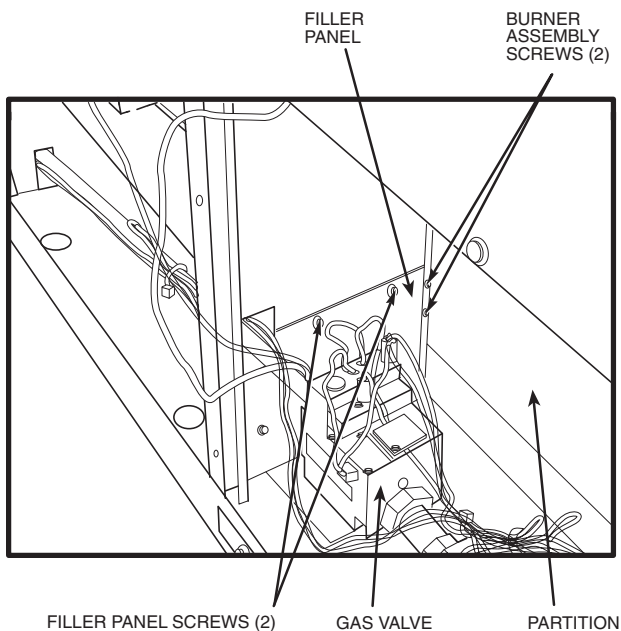

Fig. 2 — Removal of Filler Panel
9. Remove the partition filler panel by removing 2 screws from panel. See Fig. 2. Save screws for re-installation of filler panel.
10. Remove the 2 screws securing the burner assembly to the partition. See Fig. 2. Save screws for re-installation of burner assembly.